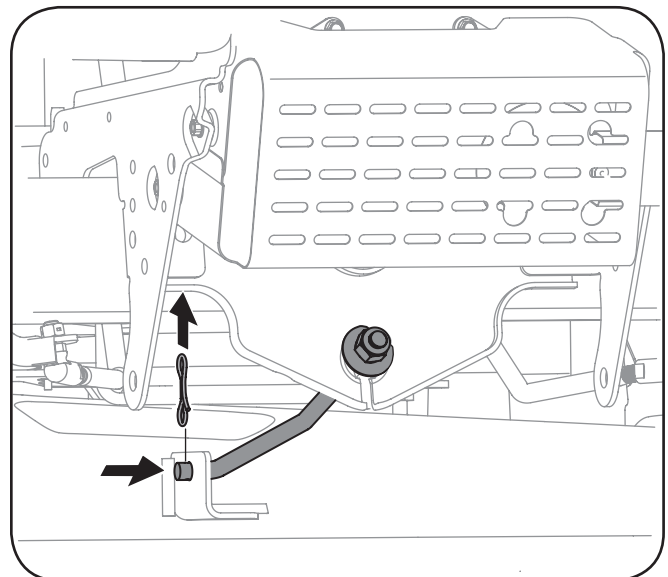

Figure 7-3
8. Remove the bow-tie pin securing the deck stabilizer rod to the deck. Slide the deck lift rod from the mounting weldment on the deck as seen in Figure 7-3.